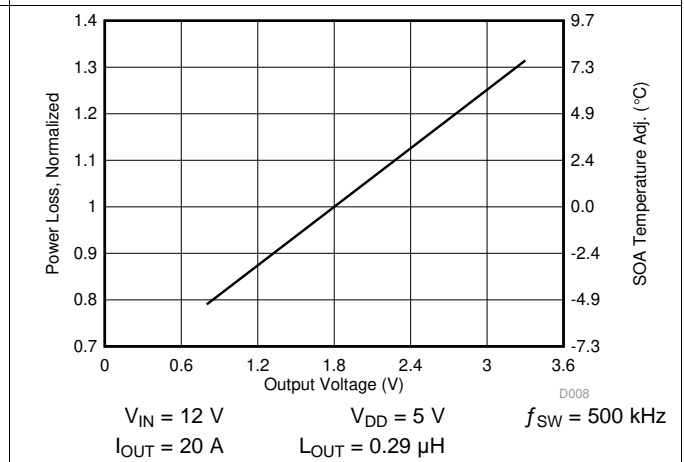

Figure 8. Normalized Power Loss vs Output Voltage
- Normalized power loss for output voltage  $\approx$  0.93 (Figure 8)
- SOA adjustment for output voltage  $\approx$  1°C (Figure 8)